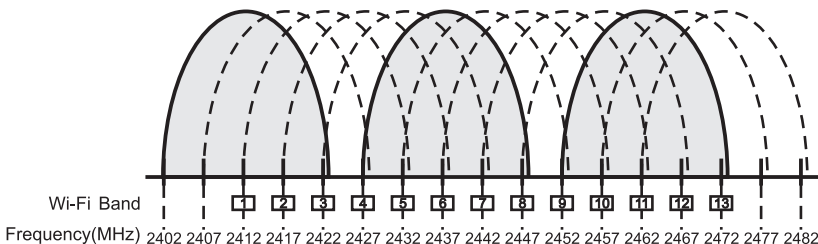

Fig. 31
- (A) When there is Wi-Fi channel selection 1, receiver channels can be set at 01 and 10 for non-interfering channels. Or select a lesser interference channels like 02, 03, 04, 05, 06, 07, 08, 09.
- (B) When there is Wi-Fi channel selection 6, receiver channels can be set at 01 and 11 for non-interfering channels. Or select a lesser interference channels like 02, 03, 04, 05, 06, 07.
- (C) When there is Wi-Fi channel selection 11, receiver channels can be set at 01 and 10 for non-interfering channels. Or select a lesser interference channels like 02, 03, 04, 05, 06, 07, 08, 09.
5. Wi-Fi Channel Distribution. Fig. 31: